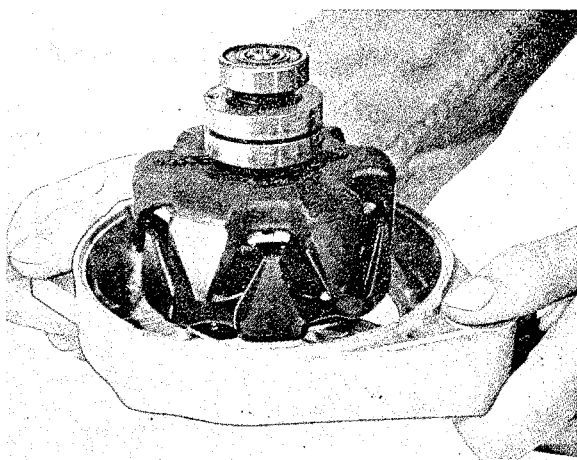

Fig. 3-8. Removing drive end shield
6. Release the three screws holding the support plate of the drive end bearing. Release the bearing by knocking the end of the shaft against a piece of wood, see Fig. 3-8.